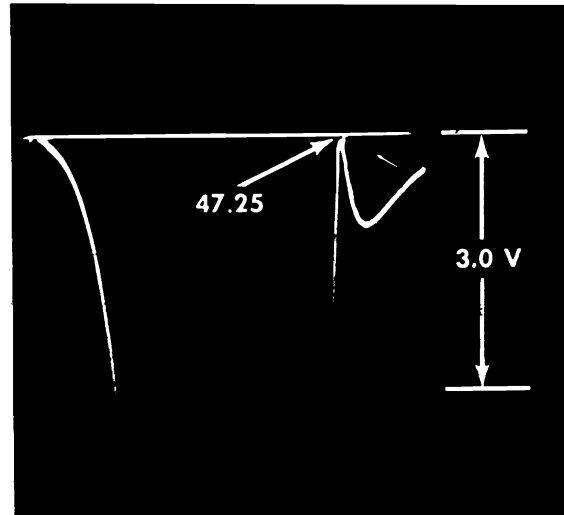

Fig. 11 Expanded view of the 47.25 Mc Trap.
5. Connect the sweep generator to terminal "A" (converter grid. Refer to appropriate tuner tube and trimmer layout). Connect terminal "F" to chassis and connect a jumper between terminal "E" and the bottom end of the 68 ohm resistor in the cathode of the first IF. This provides a "Blow Up" of the 47.25 Mc trap (Fig. 11). Adjust the 47.25 Mc trap for minimum marker amplitude.